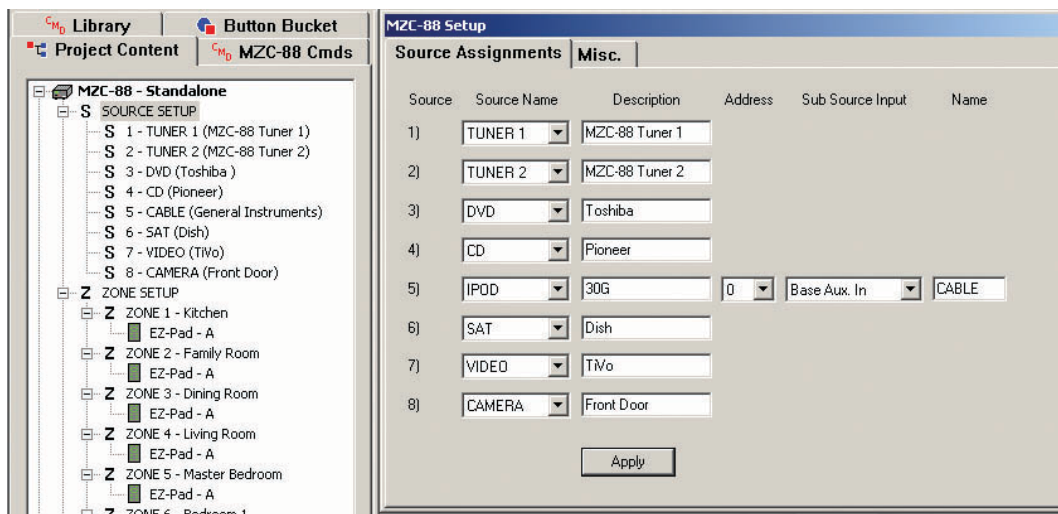
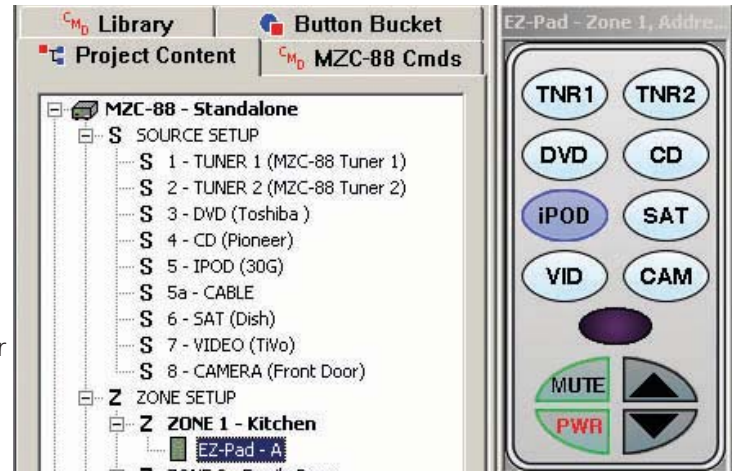

Figure 17
Figure 18
5. Left click the pull-down arrow for the source that is to change to iPod. (For the example Source 5 will be used.) The MZC Source List will open. Highlight and left click iPod. Source 5 will change to iPod. The Source Assignments Tab will also change, now featuring additional options for Source 5. (Refer to **Figure 17**)
IMPORTANT NOTE: The sources connected to the Base and Adapter Aux Inputs are only selectable via MODE 3.1 Keypads. They are not available to EZ-Pads and cannot be selected by IR remote commands. For the purpose of the example, the **cable box** that was connected to **Source 5** on the MZC has now been replaced by an **iPod**, making the iPod available to **all zones**. The **cable box** is actually **dedicated** to the **Family Room**, where coincidentally, the **MODE 3.1** is being installed. The **cable box** will be **configured** as the **Source 5 Sub Source Input** in **EZ-Tools (Figure 17)** and **connected** to the **Base Aux In** in the **Family Room**. **All zones** will have **access and control** of the **iPod (Source 5)**. **Only zones with MODE 3.1 Keypads** will have **access and control** of the **cable box (Source 5a)** which will appear in the **MODE 3.1 Main Menu** as a regular **Source**. Further, as an **option**, the cable box can be **unchecked** in **Zone Setup**, for any **zones other than the Family Room** that get **MODE 3.1 Keypads**, to keep the cable box **dedicated** to the **Family Room**. In addition to dedicated control, this will allow the cable box audio to feed through the MZC amp and zone speakers for the Family Room. See section: **Connections** for additional information.
- After the Warning(s) have been cleared, the **Source Setup** under the **Project Content Tab** will update to show the new source configuration. (Refer to **Figure 18**) Source 5 will have changed to iPod and a new source, **5a** will show **Cable**. Source 5a is the **Sub Source Input** (Base or Adapter Aux In) configured in the previous steps. (Refer to **Figure 17**)
13. At this point the EZ-Pad Source Buttons will have also changed to indicate the new source configuration. In the example, the Cable Button has now changed to iPod as shown in **Figure 18**. All programming associated with Source 5 will need to be changed from Cable commands to iPod commands for all keypads in all zones. Left click the **CMD Library Tab** to open the IR Command Library. Left click the pull-down arrow next to the **Brands** block and scroll the list until **SpeakerCraft** appears. Highlight and left click **SpeakerCraft**. Expand the **MODE Folder** by left clicking the '+' sign or double left clicking the folder icon. Next, expand the **MODE Base Folder** by left clicking the '+' sign or double left clicking the folder icon.